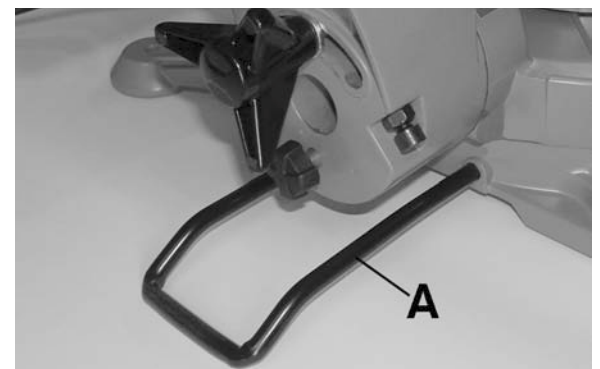

Figure 9
This miter saw comes with a rear support extension (A) Fig.9. It increases stability and if the saw head is released unexpectedly, it will prevent the miter saw from tipping backwards.